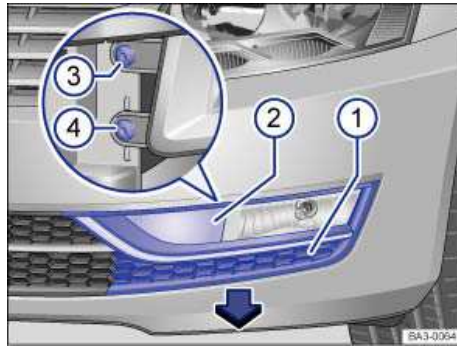
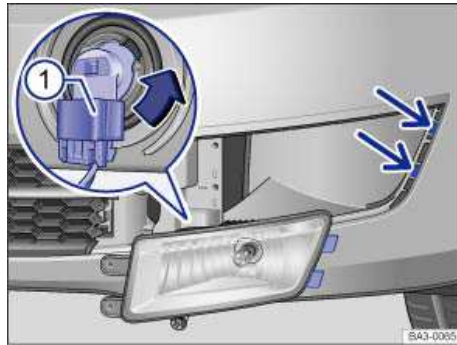

Fig. 219 In left front bumper: Removing light assembly.
Fig. 220 Replacing light bulb in headlight.
2.	Pull cover ⇒ fig. 219 (1) forward in the direction of the arrow.
3.	Pull cover (2) forward in the direction of the arrow.
4.	Unscrew fastening screws (3) and (4) with the screwdriver from the vehicle tool kit
5.	Fold the headlight assembly slightly forward and pull out of the mounts ⇒ fig. 220 (small arrows).
6.	Unlock the connector plug (1) and pull it off.
| 12. | Screw fastening screws ⇒ fig. 219 (3) and (4) tight with the screwdriver. |